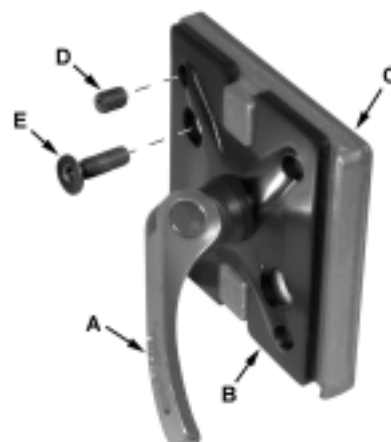

Figure 15
5. Using a 3mm hex wrench, make adjustments to four *set screws* (D, Fig. 15) accessible through openings located in the corners of the *floating clamp block* (B, Fig. 15).
Referring to Figure 15: